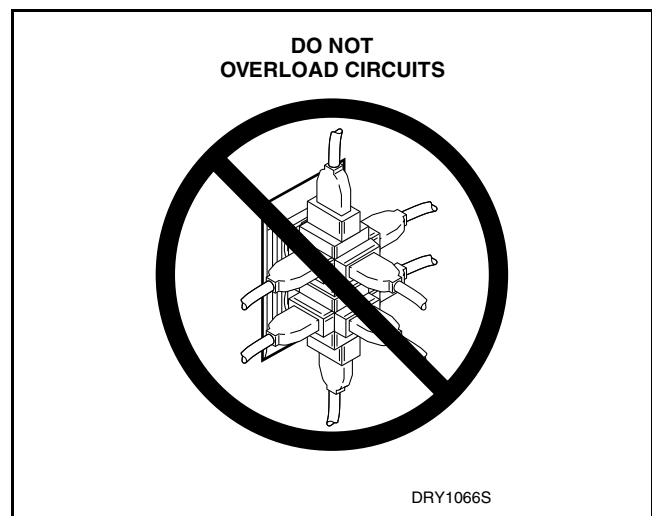

Figure 58
- c. **DO NOT OPERATE OTHER APPLIANCES ON THE SAME CIRCUIT. DO NOT OVERLOAD CIRCUITS!** Refer to *Figure 58*.